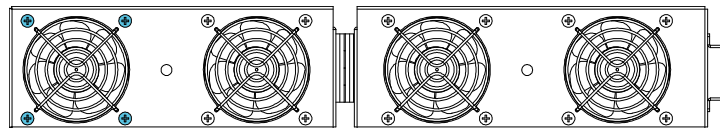

Figure 8-3 Remove the screws of the fan
4. Install a new fan on the bracket and tighten the four screws as figure 8-3. Tool: PH2 screwdriver, torque: 1.0-1.2 N.m.